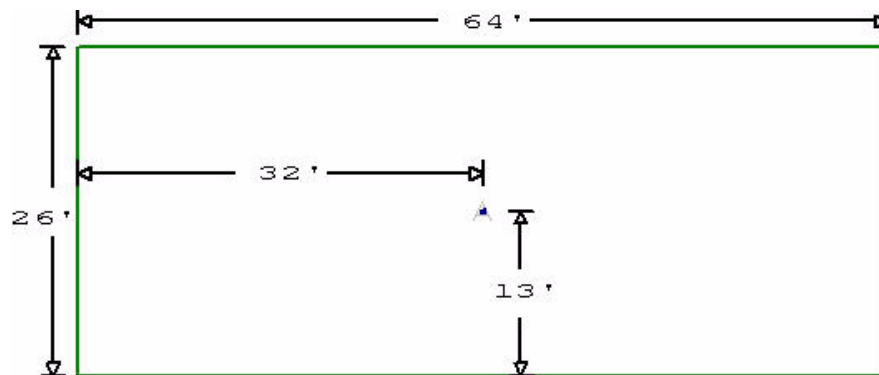

Figure 6-1 Roof outline with drain
Before worrying about the insulation layout, you'll open a new project and draw the roof outline. This project contains a simple roof section with a single drain at the center and a low area on the drain. The roof will look like Figure 6-1.
2. Add a roof section with the dimensions of the roof in Figure 6-1.
3. Add a drain in the center of the roof, as indicated in Figure 6-1.